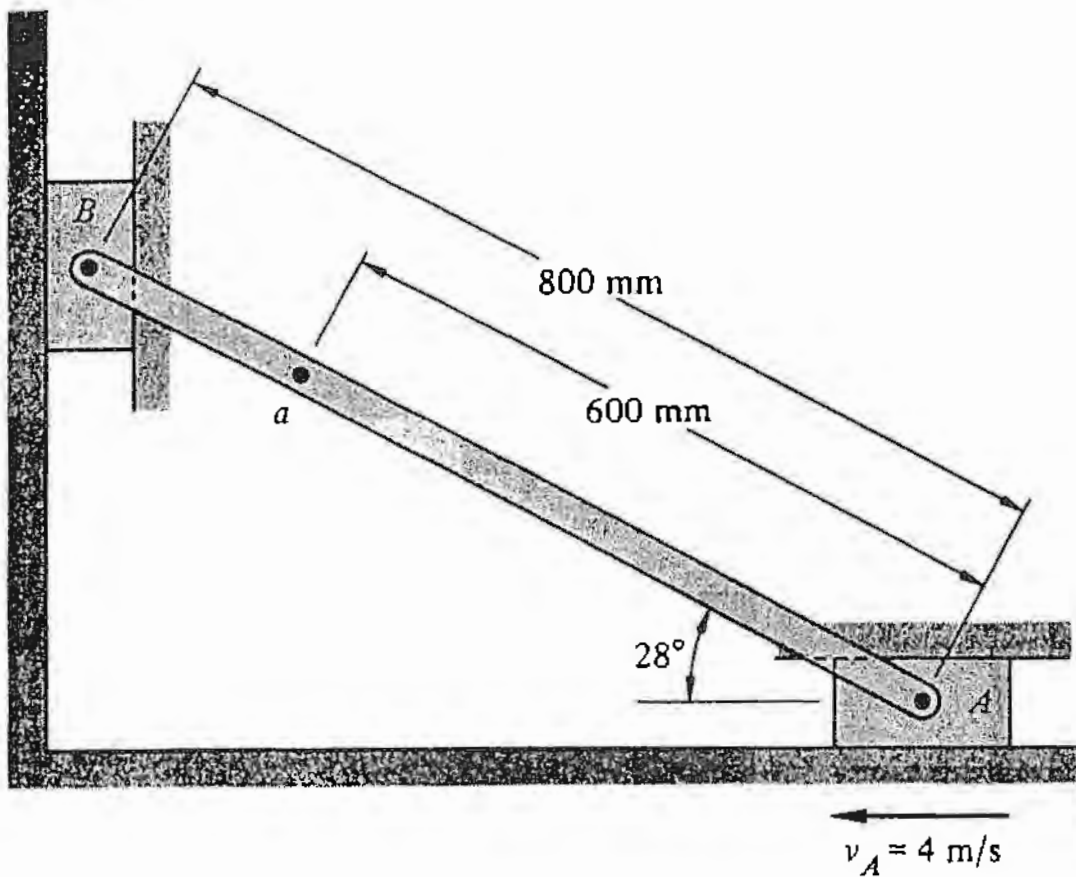

FIGURE 6.
- VI. Figure 6 shows a plane frictionless sliding mechanism. Slider block A moves to the left with a constant velocity of 4 m/sec. Neglecting the masses of the blocks and the link, determine;